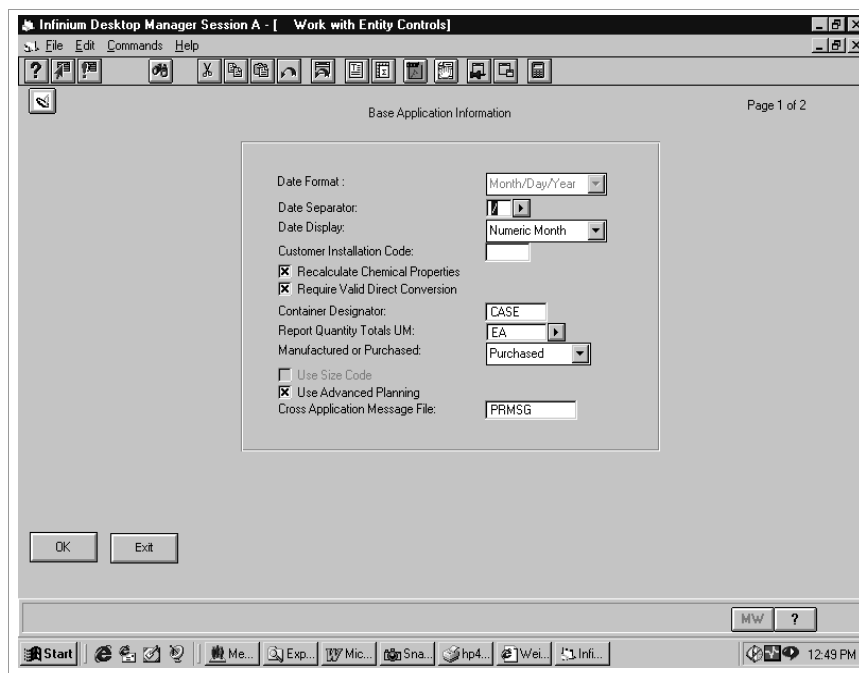

Figure 4-3: Work with Entity Controls Base Application Information screen 1
- 4 Press Enter. The system displays the screen shown in Figure 4-3.